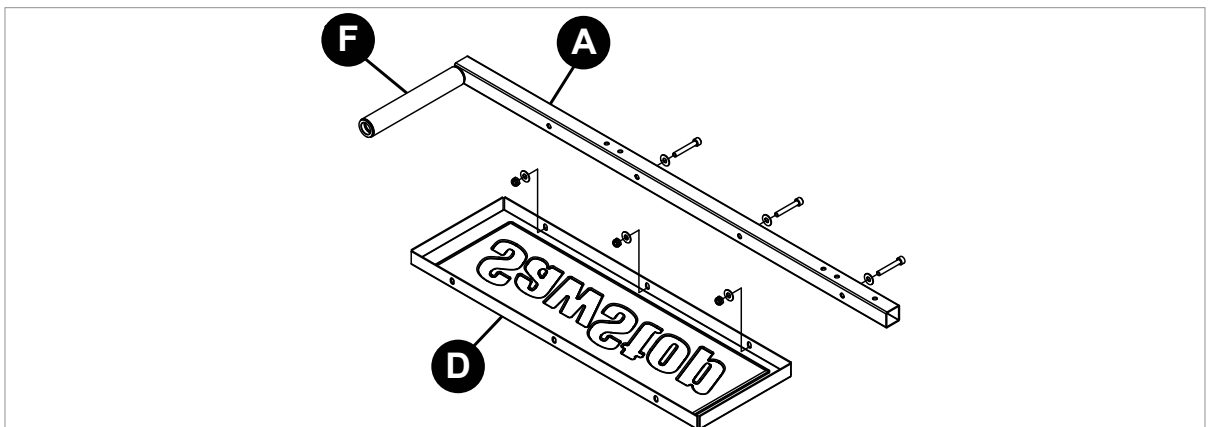

Fig. 35
- 3 Place the insert table (D) between the table tubes (A), with the text on the bottom so the three mounting holes in the side of the insert table line up with the three insert table mounting holes in the table tube attached to the large table roller (see Fig. 35).